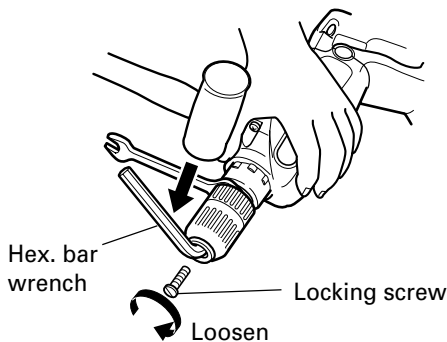

Fig. 11
(1) Removing keyless chuck from hammer drill (Fig. 11)